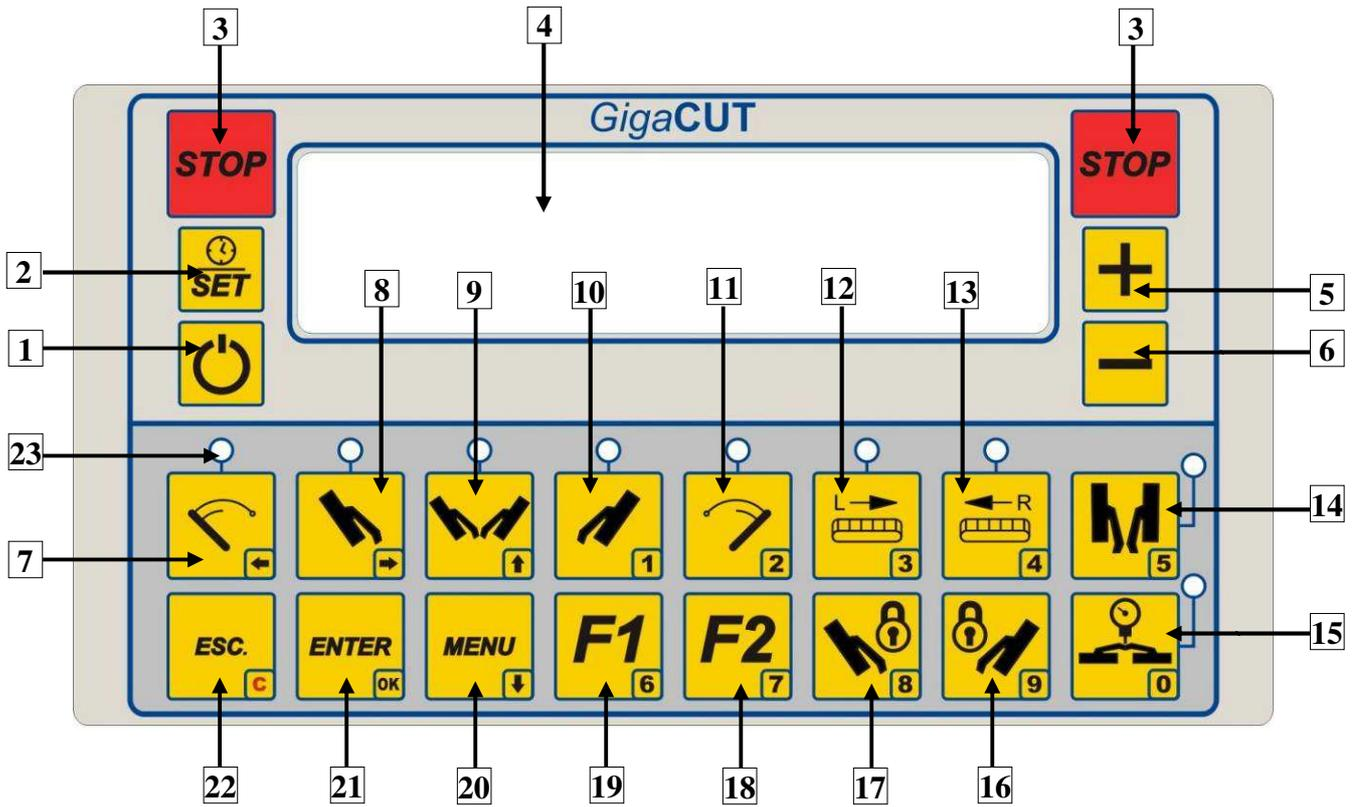

Fig. 16. Control panel – functions
Controlling the mower is performed with use of one of the tractor's hydraulic sections and control panel located in the tractor's cabin. The action to be performed is chosen by the operator with buttons on the panel which controls the tractor's hydraulics. Push the button (1)  (Fig. 16) in order to enable controlling. Pushing the button is signaled with a diode located over the button.
In order to set the mower in transport position on headlands push button (1)  and (9)  on control panel (**Fig. 16**).
To turn rears of conveyor's belt and start left conveyor (**L**) press button (12)  until the diode lights up. Analogically, when button (13)  is pressed, the corresponding diode is lit up, which starts the right conveyor (**R**). Turning conveyors off is possible owing to pressing again the buttons responsible for turning conveyors in **Fig. 16**. Rotations of conveyors' belts are adjusted with button (5)  - causing increase in speed of belt rotation or button (6)  - causing reduction in swath conveyors' rotation speed.